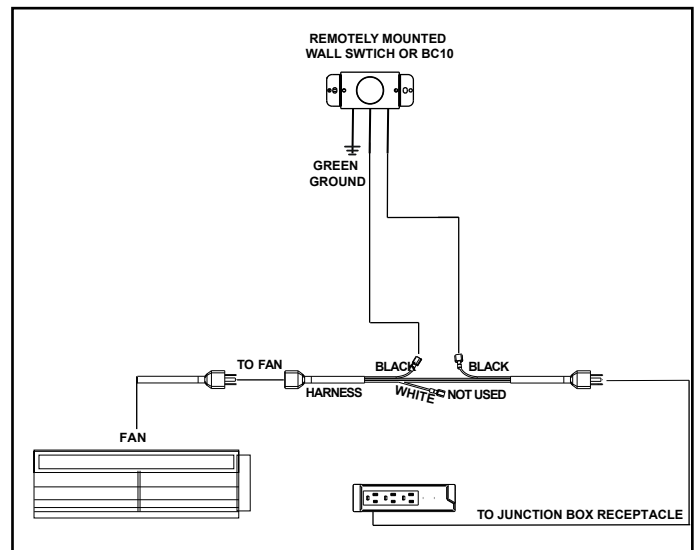

Figure 8.4 GFK21B or GFK4B Fan Kit and Remotely Mounted Switch or BC10
- The wires to the remotely mounted switch or BC10 must plug into the black female terminals on harness. See Figure 8.4.